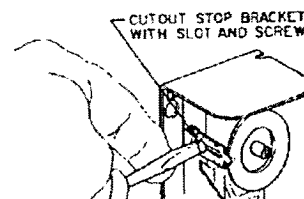

Fig. 4 — All models have a screw type cutout stop. The stop screw must be loosened and moved to the stop setting desired. Tighten screw after setting is made.
3. Loosen the cutout stop screw, slide the screw to the front of the temperature control against the plastic step behind the dial and tighten the screw. (See Fig. 4.)